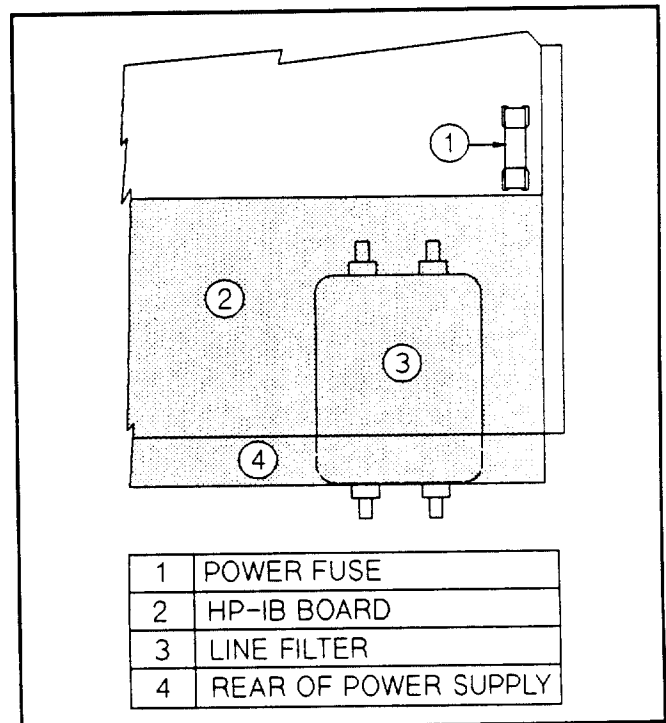

Figure 3-1. Location of Power Fuse
6. Locate the power fuse (see Figure 3-1). Replace the fuse with one of the same type and rating (for HP part number, see Table 1-4).